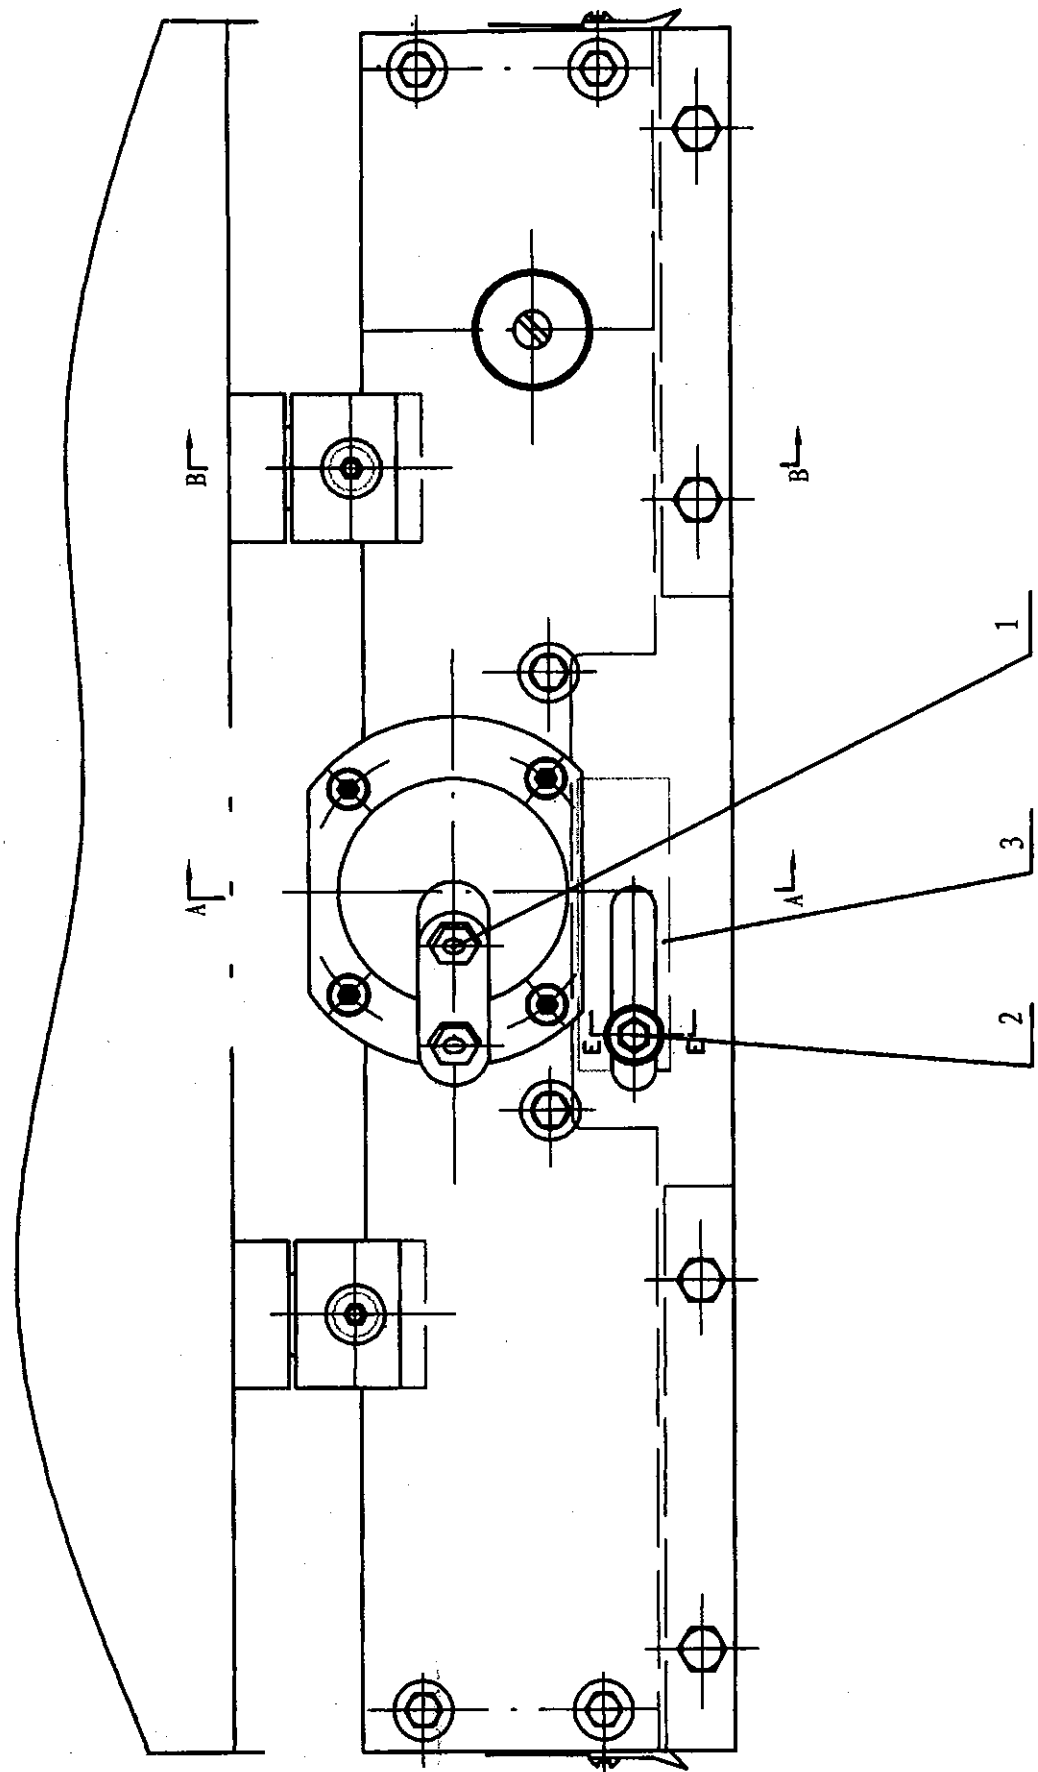

Fig 2.3 Spindle head clamping mechanism
2.4.6 Remove the locking screw at position 1 in the diagram shown in Fig. 2.3, then connect the clamping oil pipe.